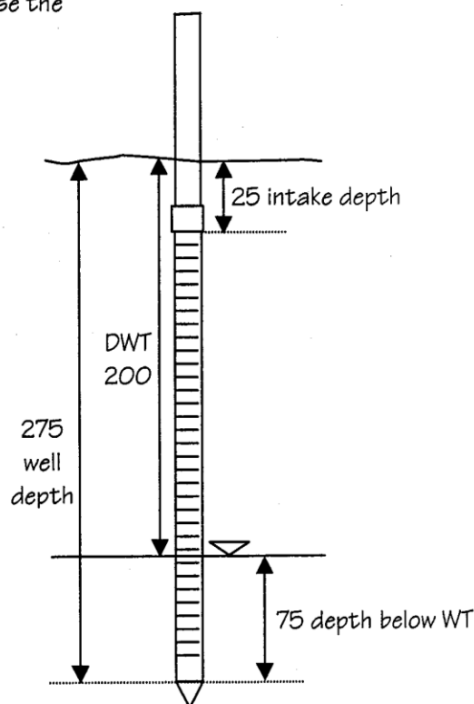

Figure 3. Determine intake length. For example, if DWT = 200 cm, cut 250 cm of screen length.
- Determine the intake length based on the DWT. Try to extend the well ~ 75 cm below the WT (more if WT is not near baseflow). The intake should end up ~ 25 cm below ground. So, cut the screened PVC to the DWT plus 50 cm (Fig. 3) It's best to use the pipecutter to ensure that connections are tight.